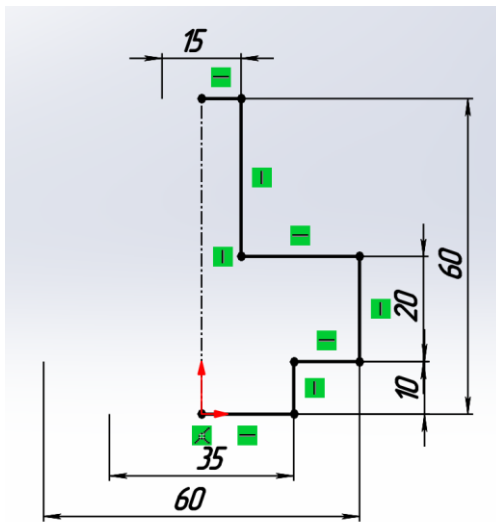

Fig. 3.4.
- The sketch must contain at least one line with the «**Reference Geometry**» property assigned to it, representing the axis of rotation (fig. 3.4).